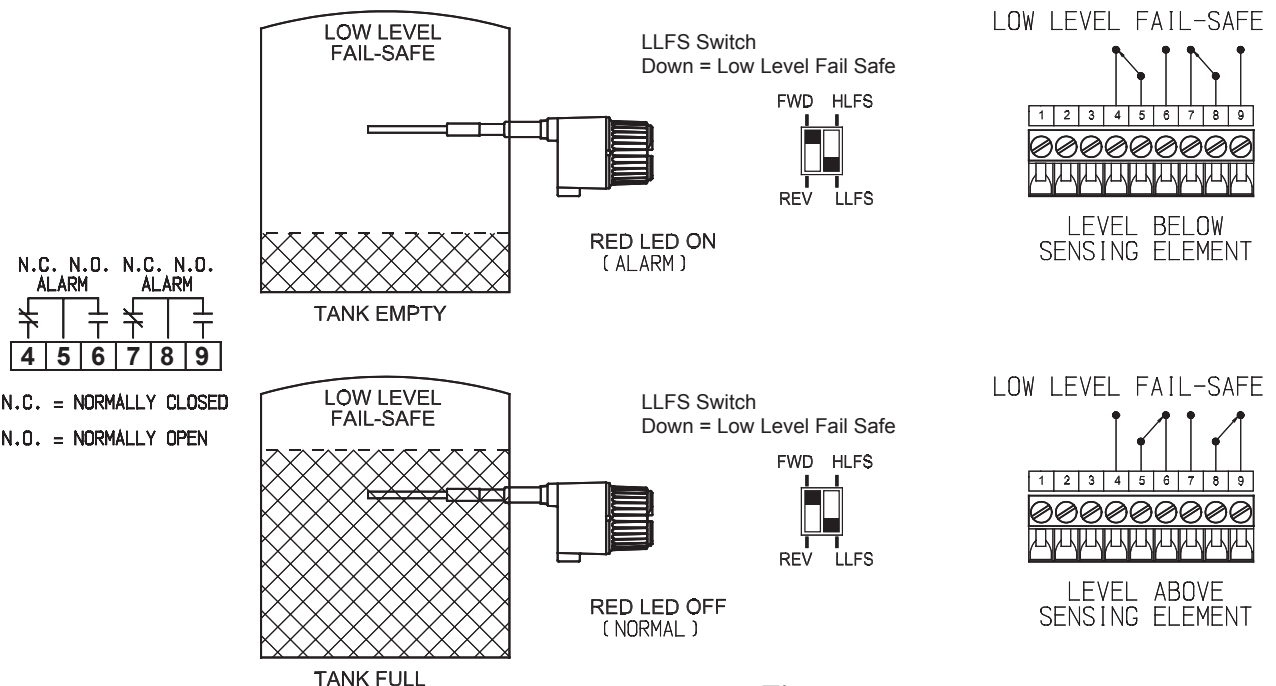
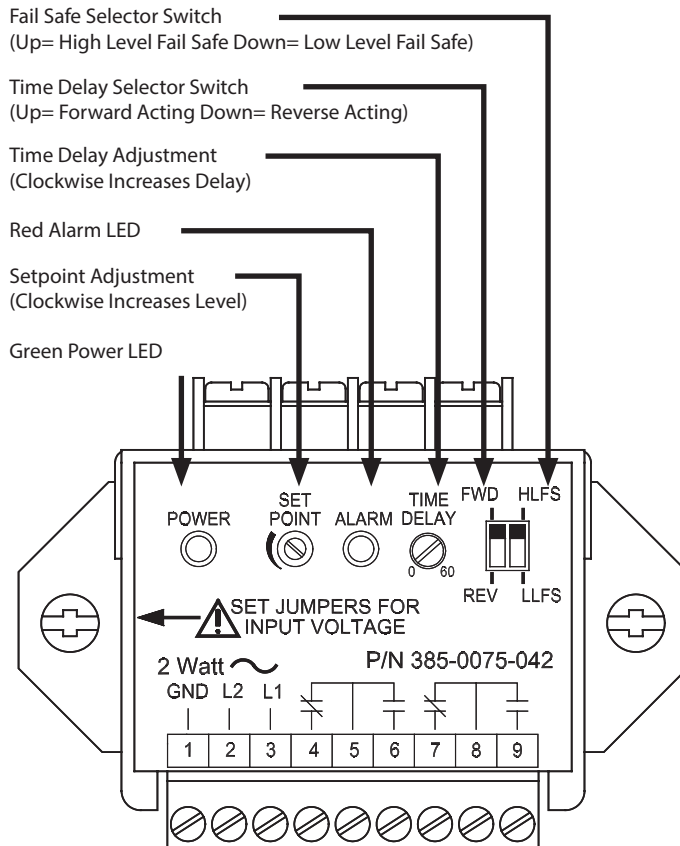

Figure 2-5
Figure 3-1
5. The alarm relays are wired as shown in Figure 2-5.
Refer to Figure 2-5 for the relay contact wiring. The Z-tron IV relay has double-pole, double-throw (DPDT) dry contacts. The relay serves as a switch and does not provide the power to operate an annunciator or other equipment. All relay connections are made to the terminal strip on the electronic unit. Refer to Figure 3-1 for the Fail Safe Selector Switch location.
There is a single operating point adjustment used to control the level at which the relay operates. See Figure 3-1.
The time delay adjustment is located on top of the instrument, as shown in Figure 3-1. It is used to help stop a repeated relay output due to agitation or waves in the vessel.
- The time delay action may be selected in the field using the left slide switch located on the top of the instrument. See Figure 3-1.
- The failsafe mode may be selected in the field by changing the position of the right slide switch located on the top of the instrument. See Figure 3-1.
2. Change fail-safe selector switch (Fig 3-1). If red LED and relay do not change states, electronic unit has failed.
5. Turn setpoint adjustment slowly clockwise (CW) until the relay just operates. (red LED off).